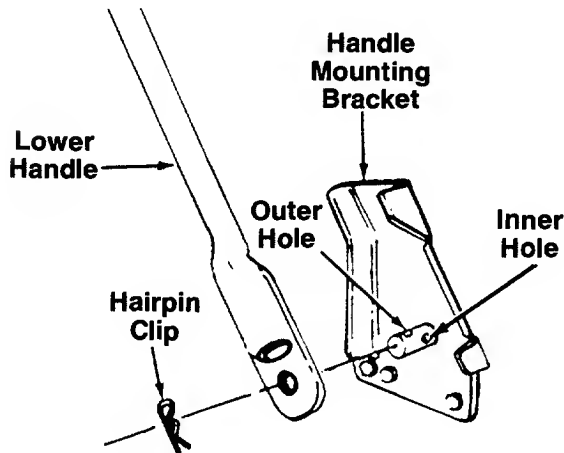

FIGURE 1.
2. Using a pair of pliers, squeeze one leg of the lower handle against the handle mounting bracket. Insert the hairpin clip into the **inner** hole on the weld pin. See figure 1. Repeat on other side.